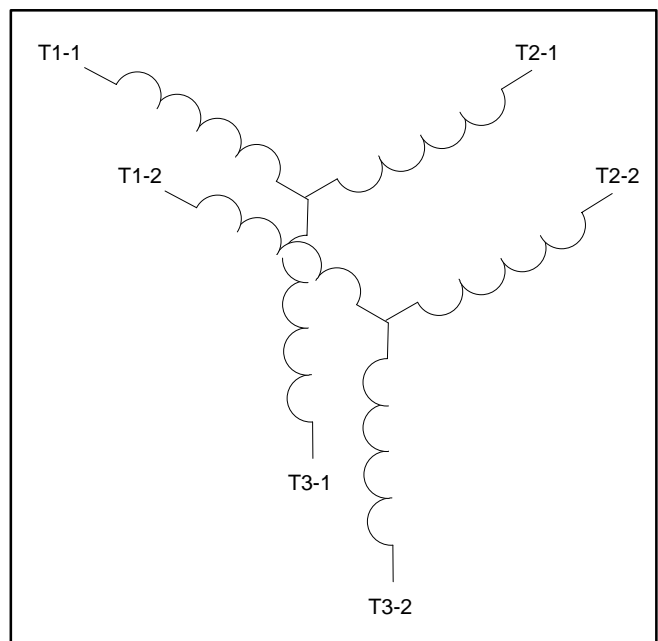
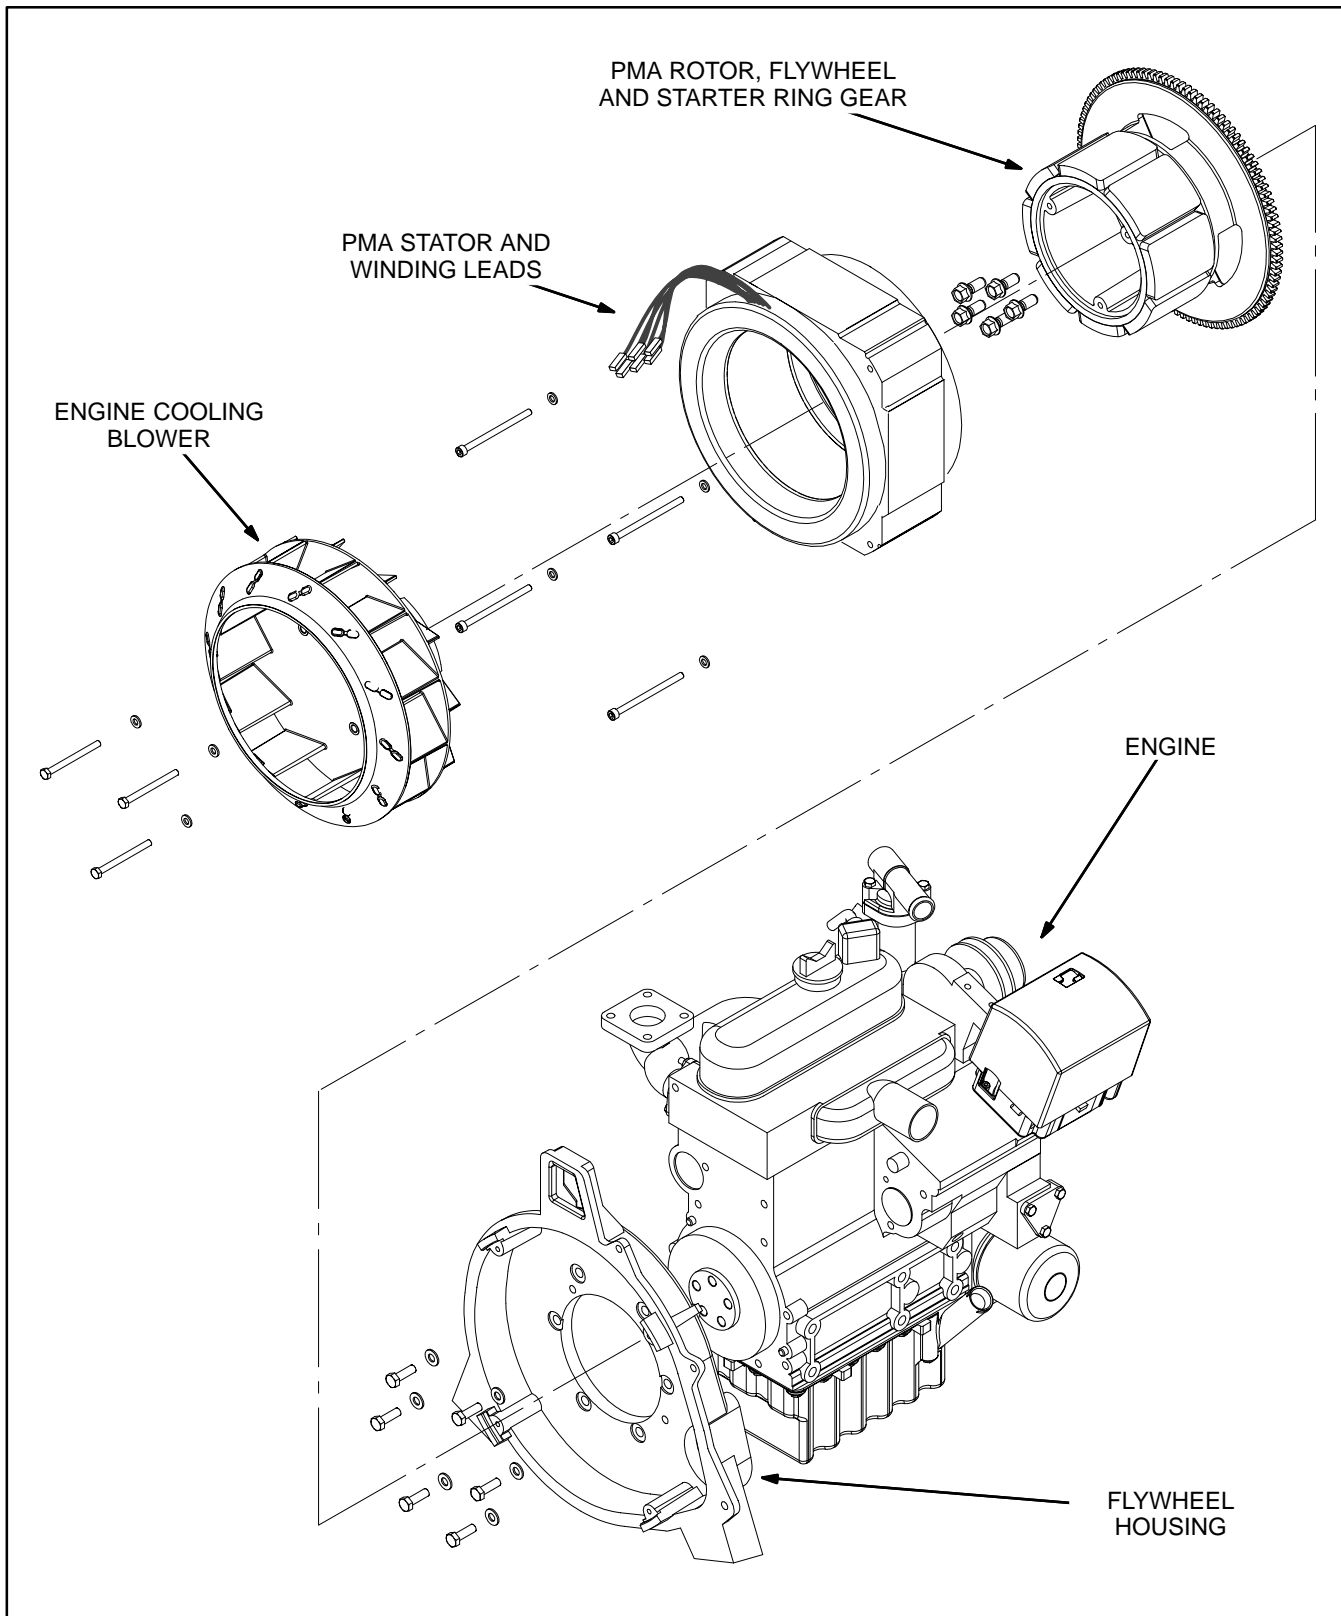

FIGURE 11-1. STATOR WINDING GROUPS
FIGURE 11-2. PMA ASSEMBLY
The genset has an 8-pole permanent magnet alternator (PMA) type of generator with a 3-phase stator (Figure 11-1). The magnets are bonded to the rotor with adhesive. The rotor is a one piece casting with the flywheel. A bearing is not used to support the end of the rotor and there are no slip rings, brushes or excitors. See Figure 11-2.
4. Remove the blower (Figure 11-2).
Installation is the reverse of removal. The stator leads must be oriented as shown (Figure 11-2). The stator must sit square within the four guide ears in the flywheel housing. Tighten all bolts and screws according to *Thread Torques*.